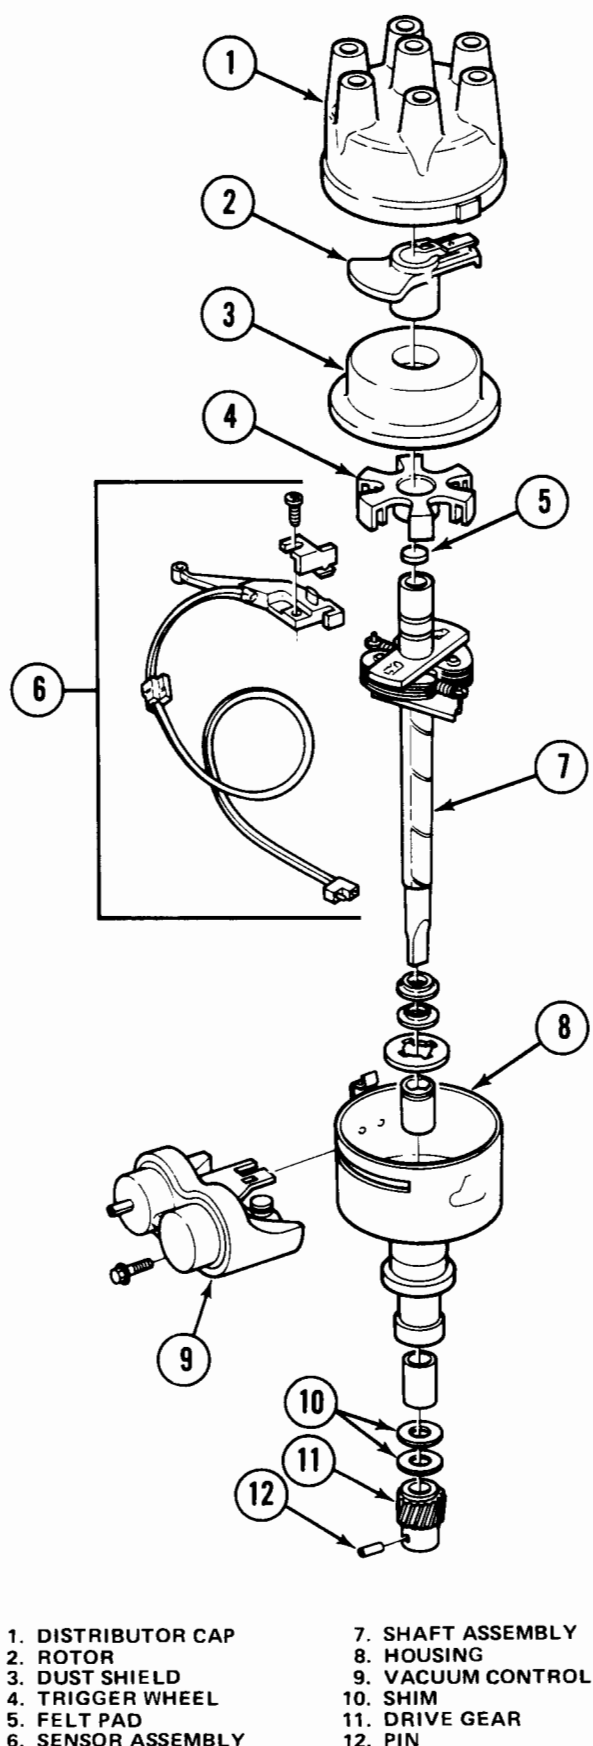

Fig. 3-57 Distributor—Disassembled View
(1) Place distributor in suitable holding device.
(2) Remove rotor and dust shield (fig. 3-57).